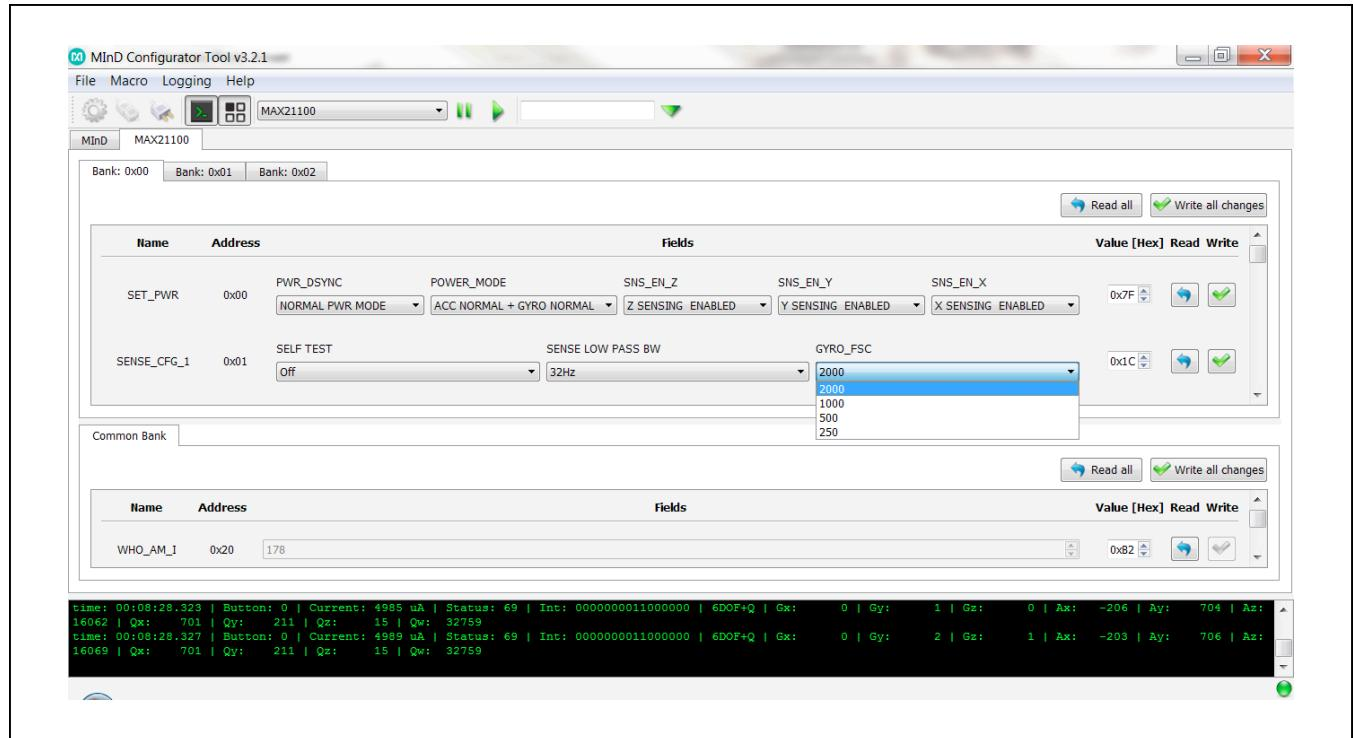

Figure 17. How to Configure the MAX21100 Gyroscope Full-Scale Setting
- 4) Finally, click on the green checkmark on the right of the field to confirm the change (Figure 17).